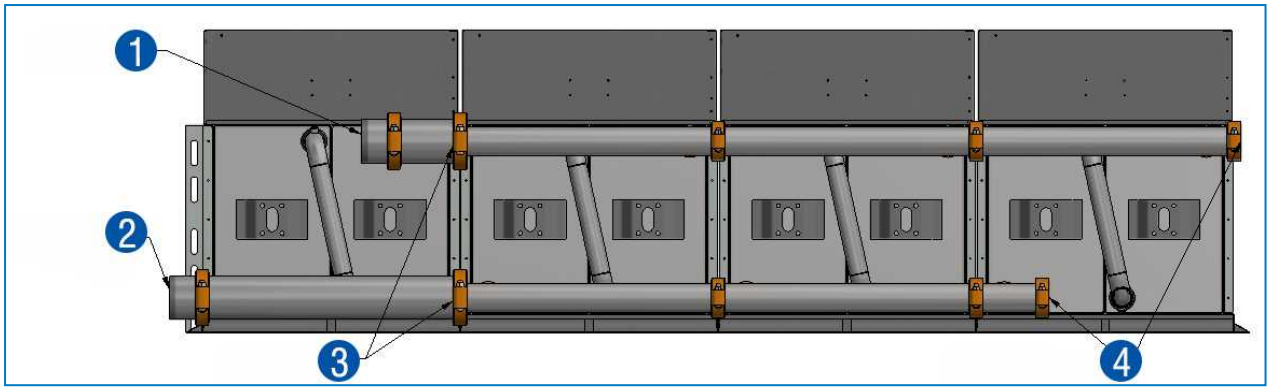

Fig. 21 Manifold layout - 1. Connection inlet, 2. Connection outlet (LWT port), 3. Victaulic reducer, 4. Victaulic with end cap.
2. Check the drawing in your submittal package for the quantity and the size of the pipe and location. Always start installing pipes from the side furthest from the intended system connection. See figure 21. Refer to your submittal for details.
Some jobs will require Victaulic reducers to change diameter, see figure 21.